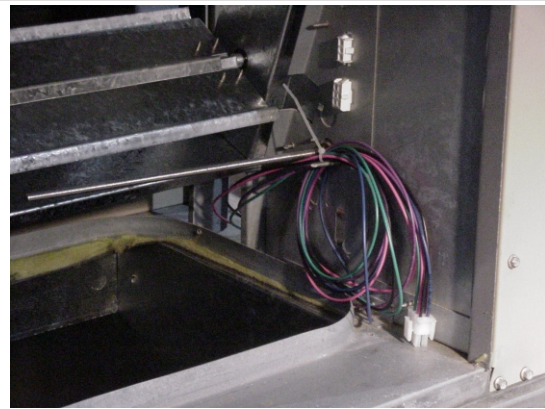

Figure 8
- 20- Route the 6-pin (pivoting) / 3-pin (fixed) connector P153 and wiring harness under the economizer and out the return air. Coil excess wire and route into return air of the rooftop unit. **See Figure 8**.